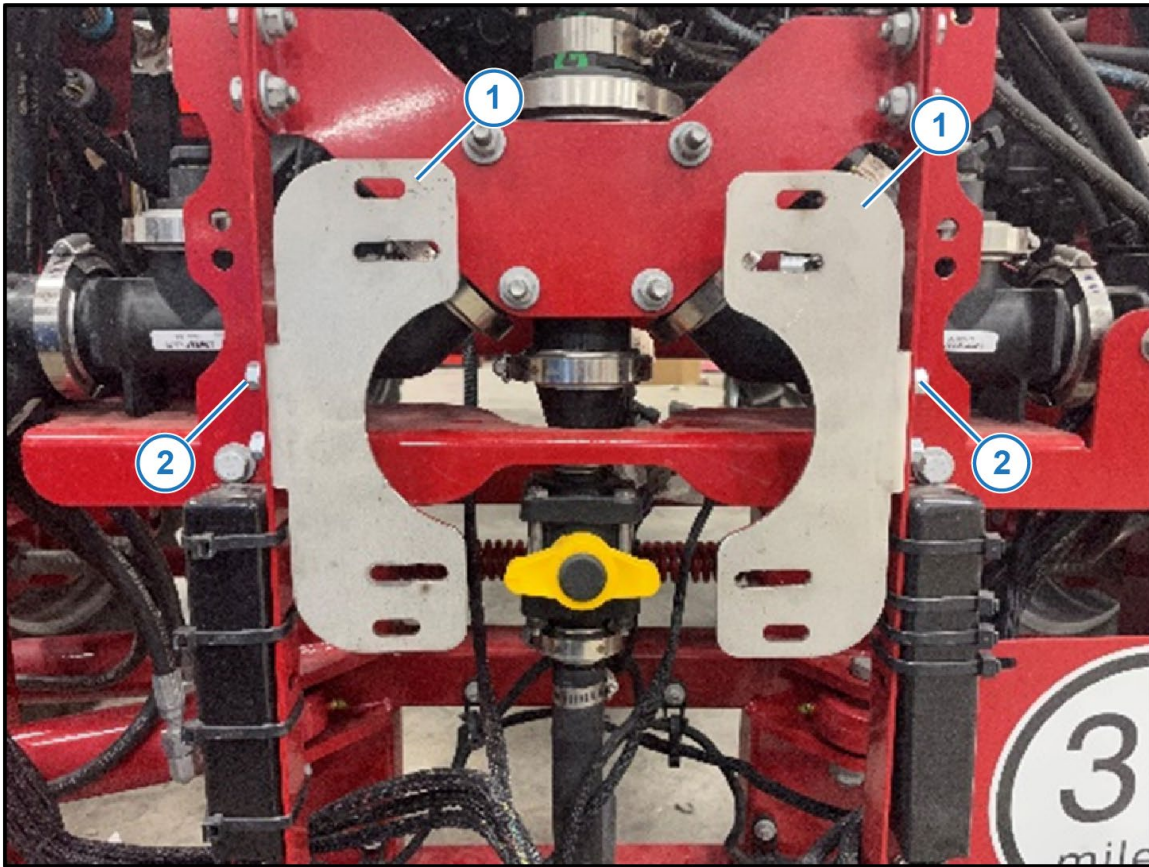

Figure 2 — Mounting Bracket Installation
3. *Figure 2:* Install Case IH mounting brackets (118640-038) (1) using supplied flange bolts (620137-001) and lock nuts (713501-905) (2).